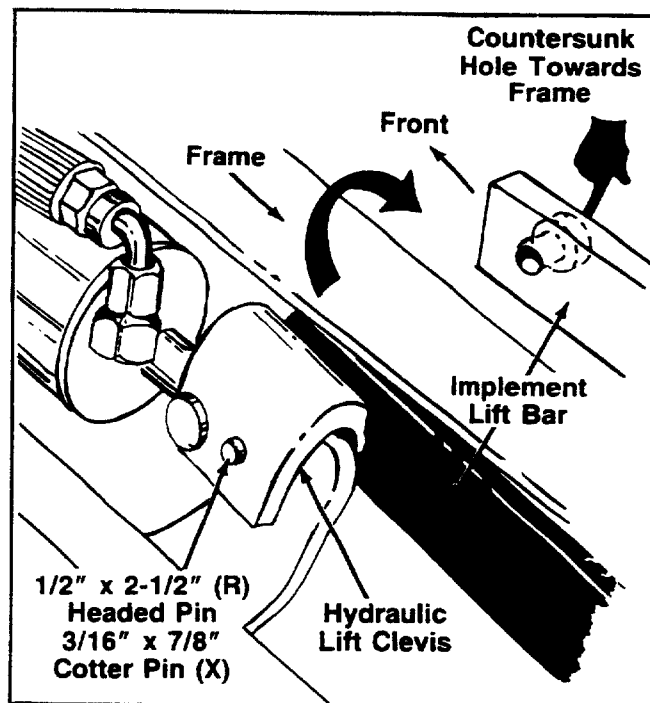

FIGURE 21.
30. Remove headed pin $\frac{1}{2}$ " x 1.50" through access hole in frame and attach the implement lift bar to hydraulic lift clevis assembly. See figure 21.